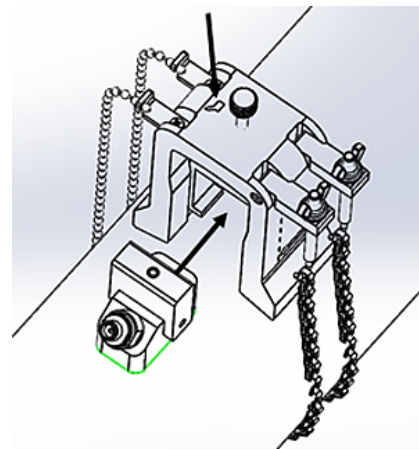

Figure 32: Insert transducer into yoke
- Loosen the yoke screw. Then, apply couplant to the transducer face and insert the transducer into the yoke, as shown in Figure 32 below.